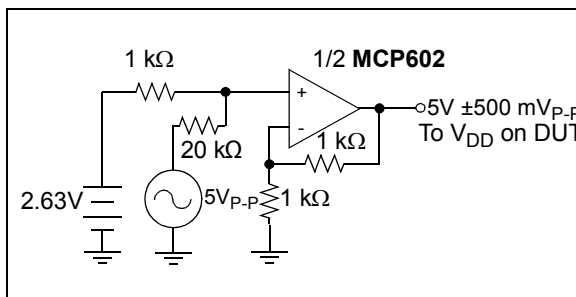

FIGURE 1-4: Power Supply Sensitivity Test Circuit (PSRR).
Note 4: $V_{DD} = 5V$ DC ± 500 mV_{P-P} @ 1 kHz, see test circuit Figure 1-4.
- 4: $V_{DD} = 5V \text{ DC} \pm 500 \text{ mV}_{P-P}$ @ 1 kHz , see test circuit Figure 1-4.
- 4: $V_{DD} = 5V$ DC ± 500 mV_{P-P} @ 1 kHz, see test circuit Figure 1-4.